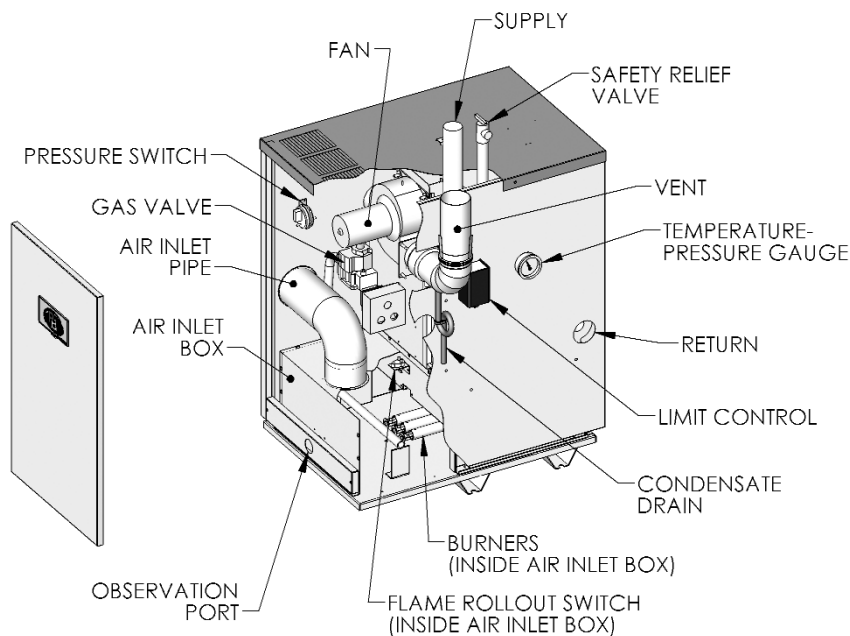
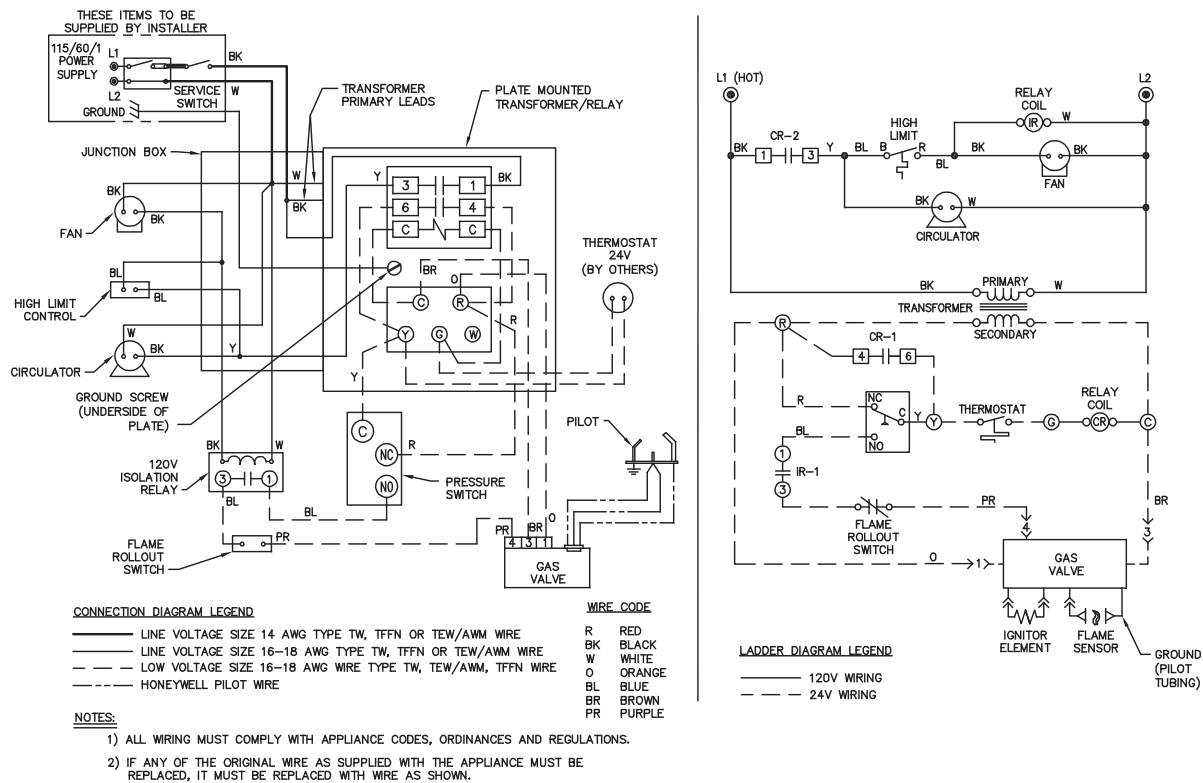

Figure 6.1: Wiring, Controls and Safety Devices
Figure 6.2: Wiring and Connection Diagram
1. See Figure 6.1 for location of wiring and controls. Use Figure 6.2 to connect the boiler to a power supply and to connect components to the boiler.
1. For proper location of controls and accessories refer to Figure 6.1.
See Figure 6.1 in Section 6 (Electrical) for locations of these devices.